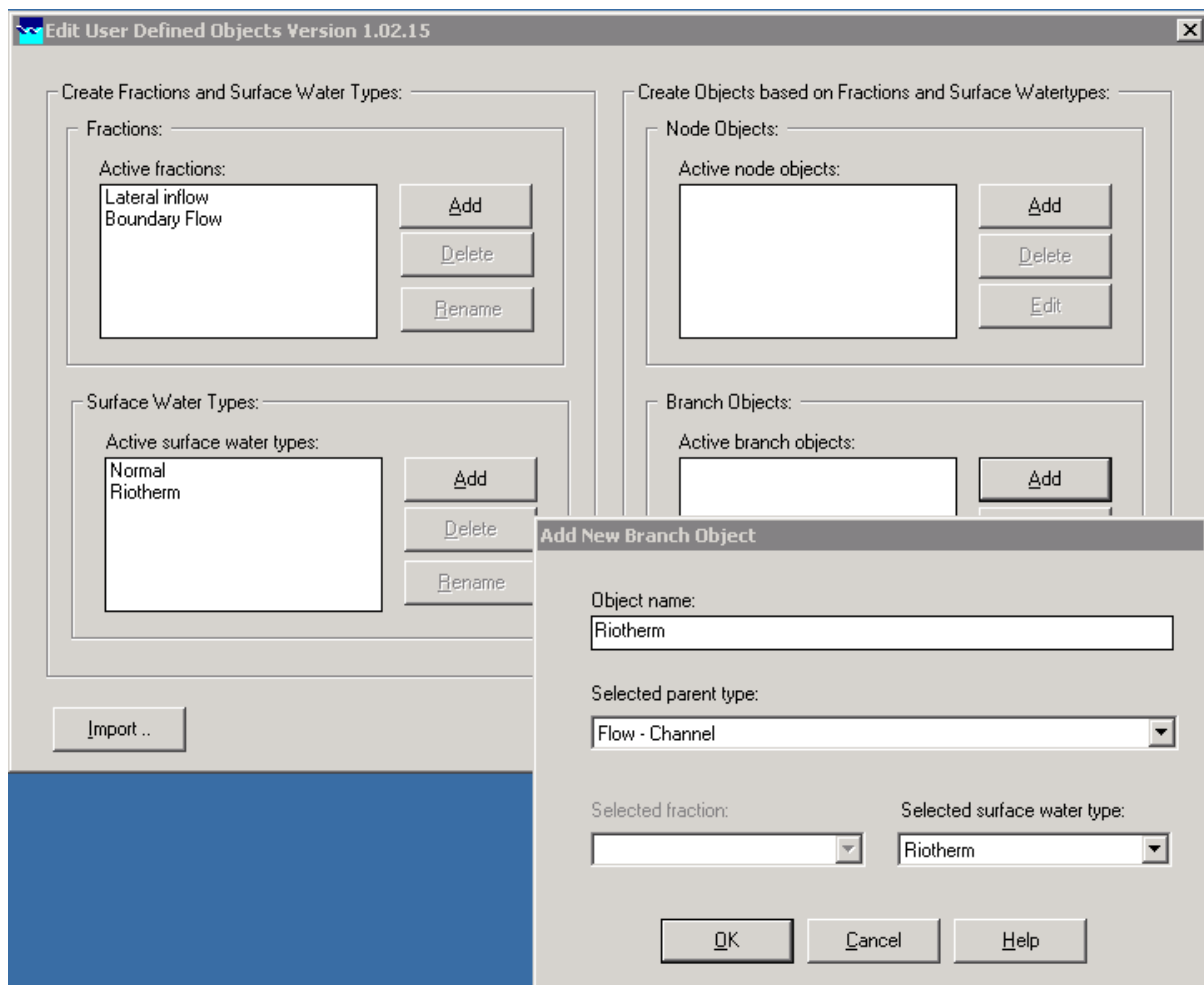

Figure 4. Setup of surface water type and pipe.
4. At the *"Branch Objects"* area, add an *"Active branch objects"*. At the example provided, it is called Riotherm again (Figure 4).
5. At the option *"Selected parent type"*, Select Flow – Channel and Riotherm as *"Selected surface water type"* (Figure 4).